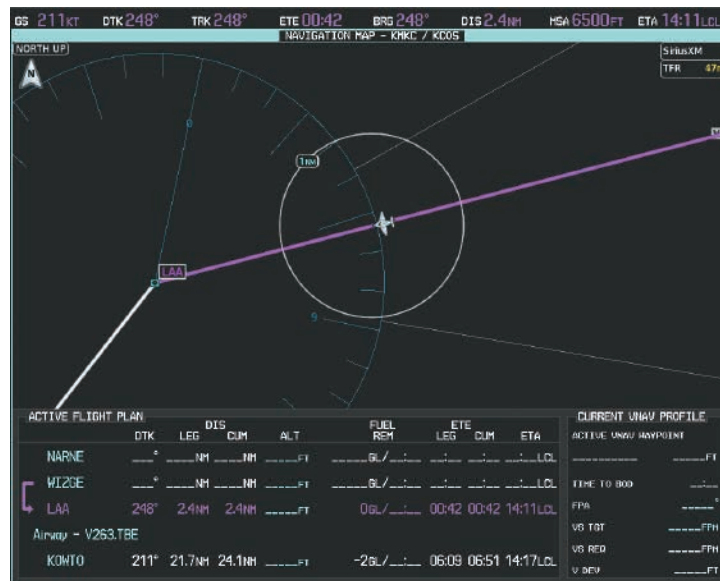

Figure 5-175 WIZGE to LAA Leg Active
10) At Lamar VOR (LAA) V263 is intercepted. See Figure 5-175